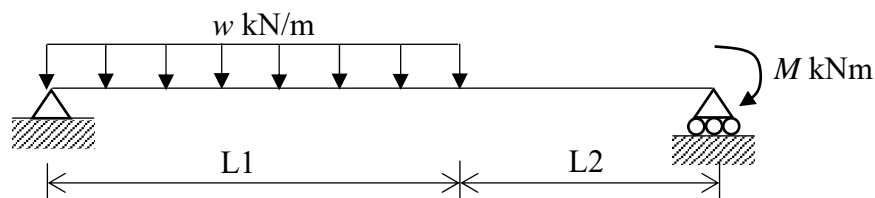

Figure 6
- (b). If an additional concentrated moment of M kNm acts at the right support of the beam as shown in **Figure 6**, calculate the slope and deflection at point L_2 m from the right support of the beam. **The value M is given in Table 1 according to your matriculation number.** Use either moment-area method or conjugate-beam method.